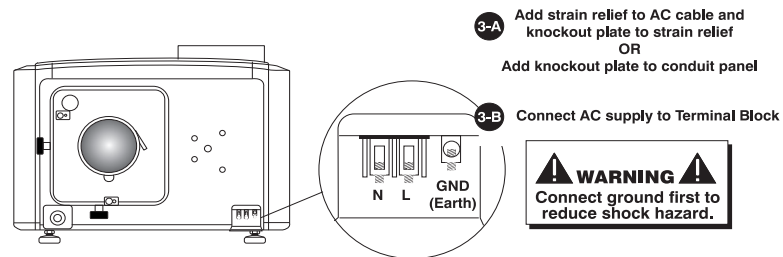

Figure 2-11 Steps to Connect AC Power to Terminal Block
3. Connect the AC power source to the terminal block, beginning with the ground lead first. See **Figure 2-11** for wiring details. Use an appropriately sized strain relief connector with the knockout plate provided to ensure adequate environmental sealing and to prevent the cables from wear and accidentally being torn out. **NOTES: 1) The terminal block accommodates up to an 8 AWG wire. 2) If desired, a 90° strain relief connector can be used to route the power cable in a downward direction.**